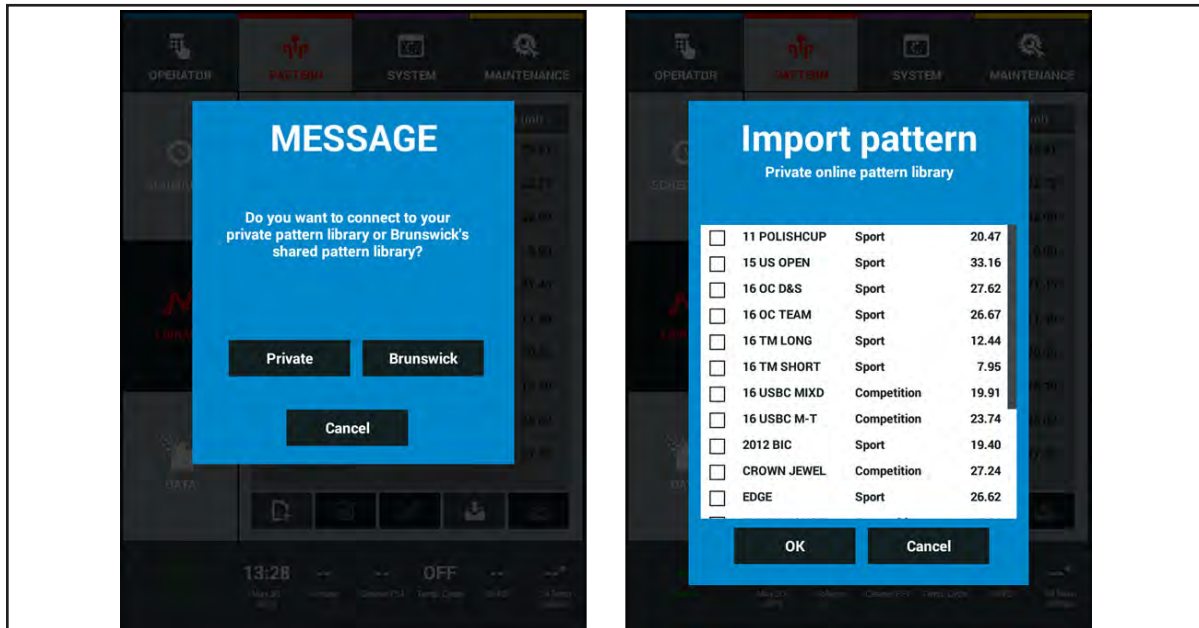

Figure 4-24. Brunswick Public Library
- b. “Brunswick” to find new patterns from the Brunswick Public Library. Refer to *Figure 4-24*.